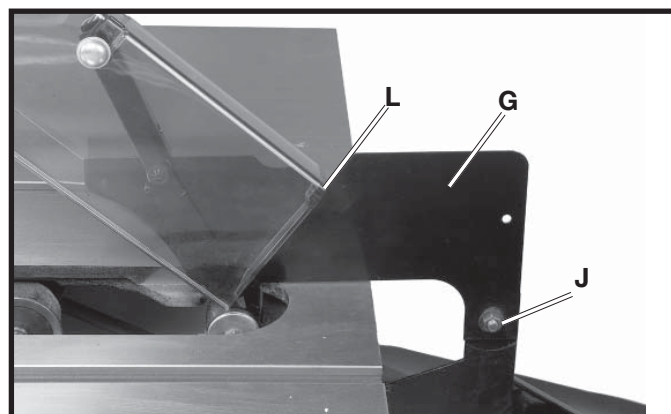

Fig. 48
- Fasten the rear of the blade guard and splitter bracket assembly (G) Fig. 48, to the rear splitter mounting bracket. Align the hole (J) in the blade guard and splitter bracket with the hole in the rear splitter mounting bracket. Insert a 5/16-18 x 5/8" Carriage Head Screw through the hole and place a 5/16" Flat Washer on the screw and fasten with a 5/16-18 Hex Nut, and tighten securely.